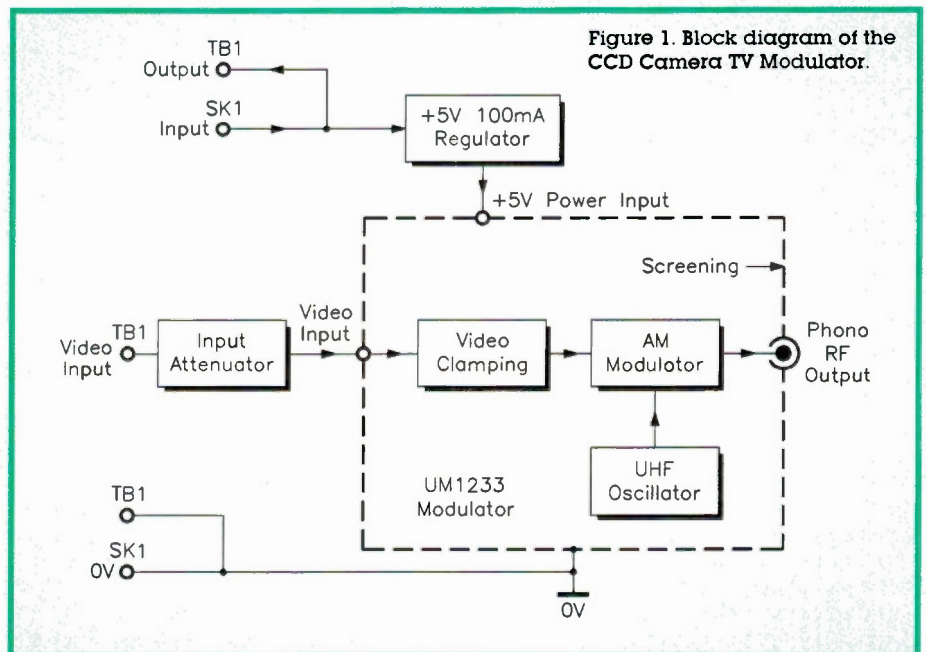

Figure 1. Block diagram of the CCD Camera TV Modulator.
Refer to the Modulator block and circuit diagrams, shown in Figures 1 and 2, respectively. These should assist you when following the circuit description or during fault-finding of the completed unit, should this be necessary. The regulated DC power is applied to the Modulator via the jack socket SK1. This supply must be within the range of 10.5 to 17V DC (regulated), since this also feeds the CCD camera module itself, which is an expensive item to replace should excessive voltage be applied – so do not exceed the maximum voltage! To prevent reverse polarity damage, diode D1 is included.
As can be seen from the block diagram of Figure 1, all the main signal processing circuits are contained within the UHF modulator block MD1. All the stages are powered from a common +5V supply, RG1, with the 0V ground connection made to its metal screening can. The incoming video information is first passed through a signal clamping circuit. This is to ensure that if overdriven, the RF output of the modulator will not completely break up. The video information is then applied to an amplitude modulator (AM) stage, which receives the output from a RF oscillator running at a frequency of approximately 591.5MHz